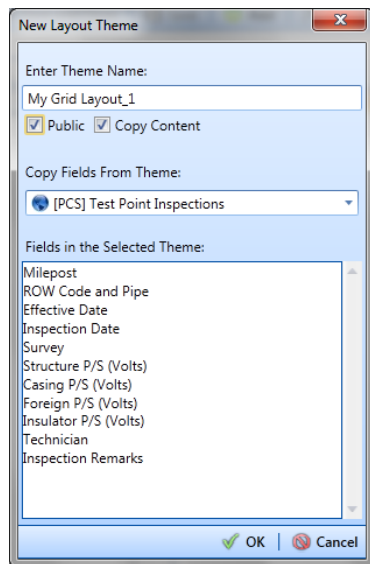

Figure 6-67. New Layout Theme
- 5 Click the **Customize** tab  then the  **Add** button to open the *New Layout Theme* dialog box (Figure 6-67).